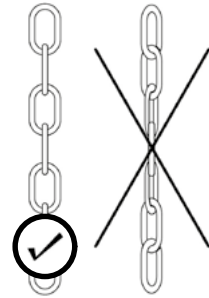

Figure 8
- The chain for emergency control should never be twisted (*fig. 8*), otherwise, failures in the operation of the emergency manual control unit may occur.